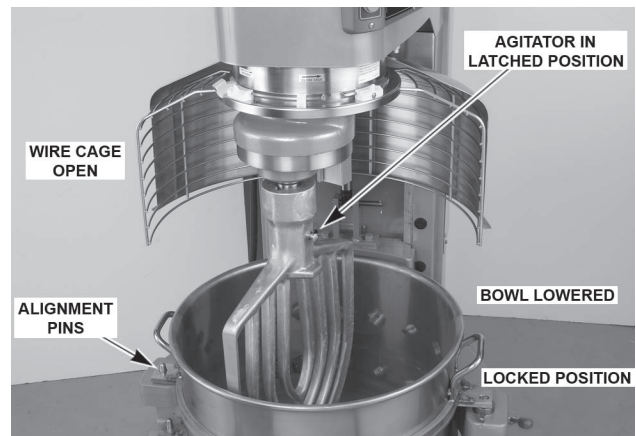

Fig. 10
2. Position the bowl so the alignment pins on the left side of the bowl support (Fig. 10) fit in the holes in the bowl.
3. Swing the bowl into the locked position on bowl support (Fig. 10).